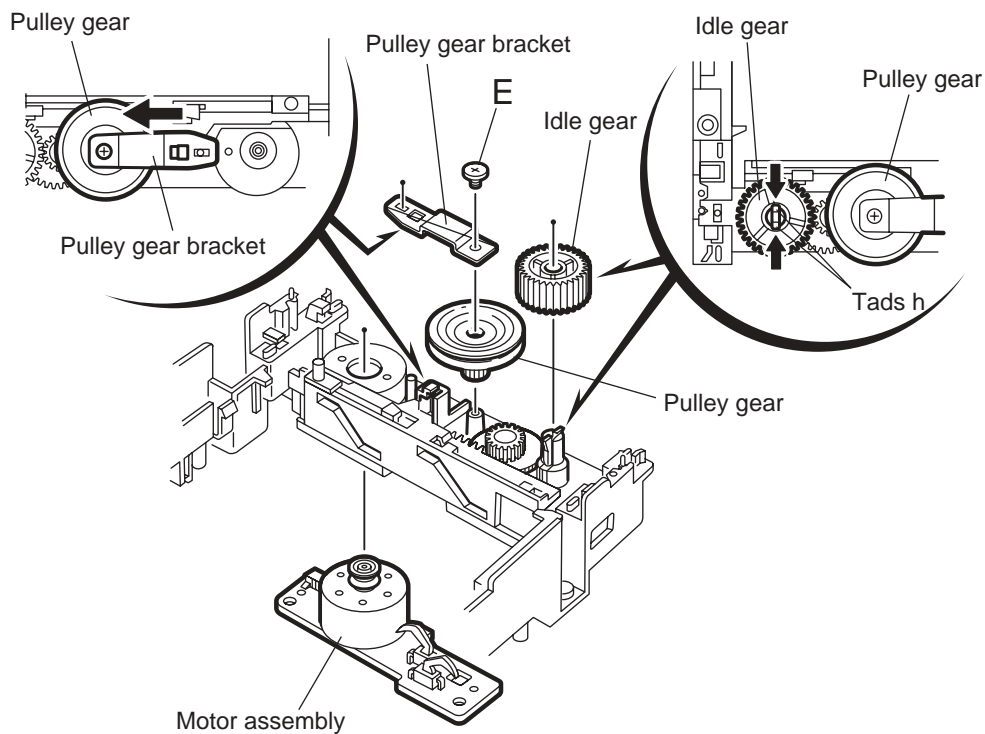

Fig.2-16
2.2.6 Removing the Idle gear/pulley gear/ middle gear/slitecam (See Fig.2-16 to 2-18)